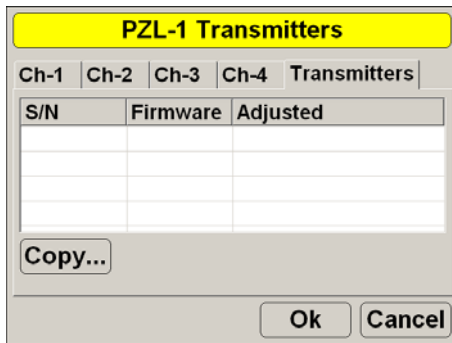

Figure 7-12. Transmitter Details
4. To view firmware and adjustment status for the transmitter(s), tap the **Transmitters** tab (Figure 7-12).